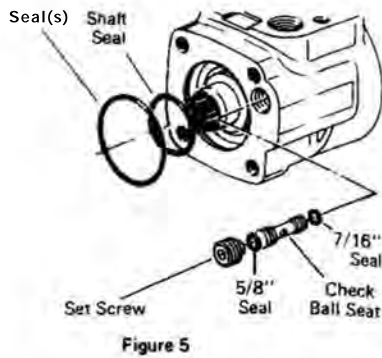

Figure 5
- 15 Place housing on soft cloth, then remove set screw, see Fig. 5.
- 21 Install 2-1/8" diameter seal in control end of housing, see Fig. 5.